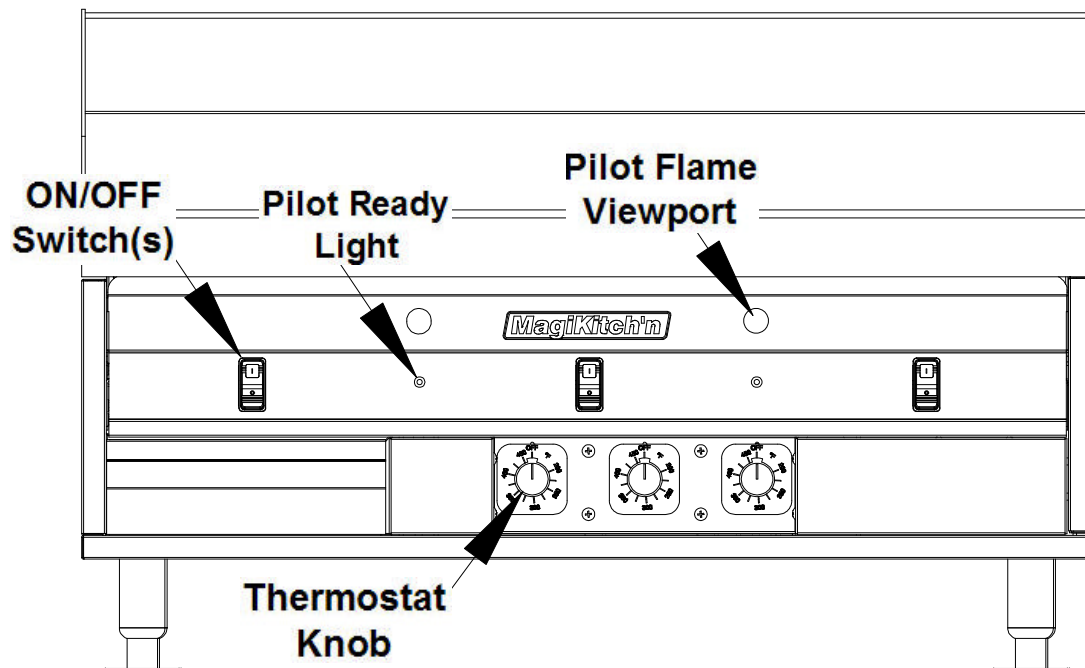

Figure 7
3. Turn the **RED "I/O"** switch to the "I" (ON) position for all desired Thermostats to be operated, See Figure 7. When the Pilot ready (Yellow) light illuminates, the pilot(s) are ready to operate the main burners.